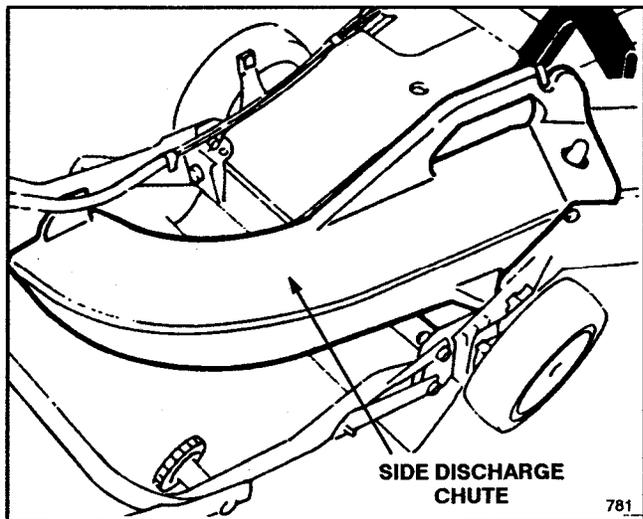

Figure 35
3. **Side Discharge Kit, Model No. 59189**—Install discharge tunnel and rear mounted side discharge chute to convert the Recycler® II Super Pro® mower to a side discharge mower (Fig. 35). Includes discharge tunnel plug.